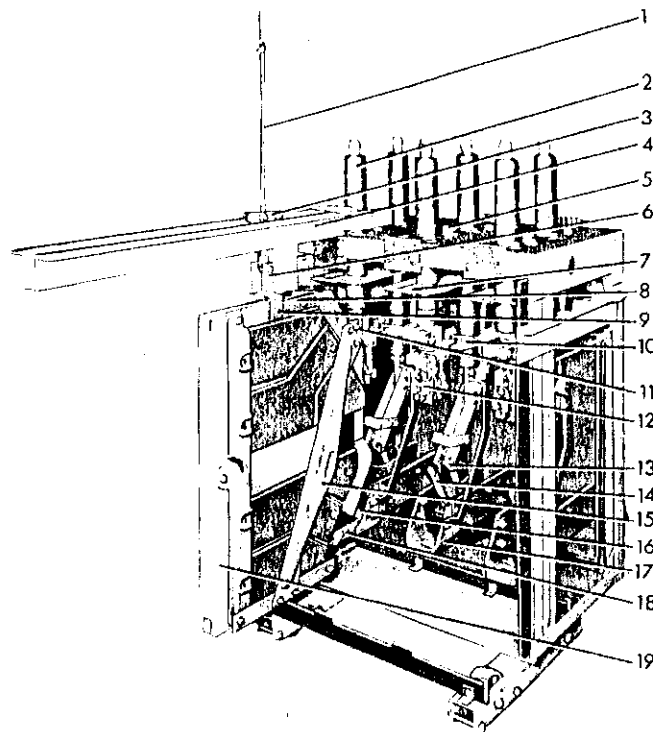

Figure 16. (8034809) Interrupter Partially Removed Showing Accessibility of Arcing Contacts.
Refer to Figure 16. An arc chute lifter is normally furnished with the metal-clad switchgear for use in removing and replacing the interrupters of the AM-13.8-500 breakers. When the lifter is not available an overhead crane or portable hoist may be used. The arc chute lifter is assembled to the top plate of the breaker as shown in the reference figure using the bolt (5) located between the front and rear bushings. Before assembling the lifter on the breaker it is necessary to remove the box barrier.
Tighten the supporting bolts (11) and (16) Figure 16. These bolts serve as both the electrical and mechanical connections between the bushings and the arc runners within the interrupter. Check that the movable arcing contact (14) passes between the probes on the upper arc runner (4) Figure 20 without touching.